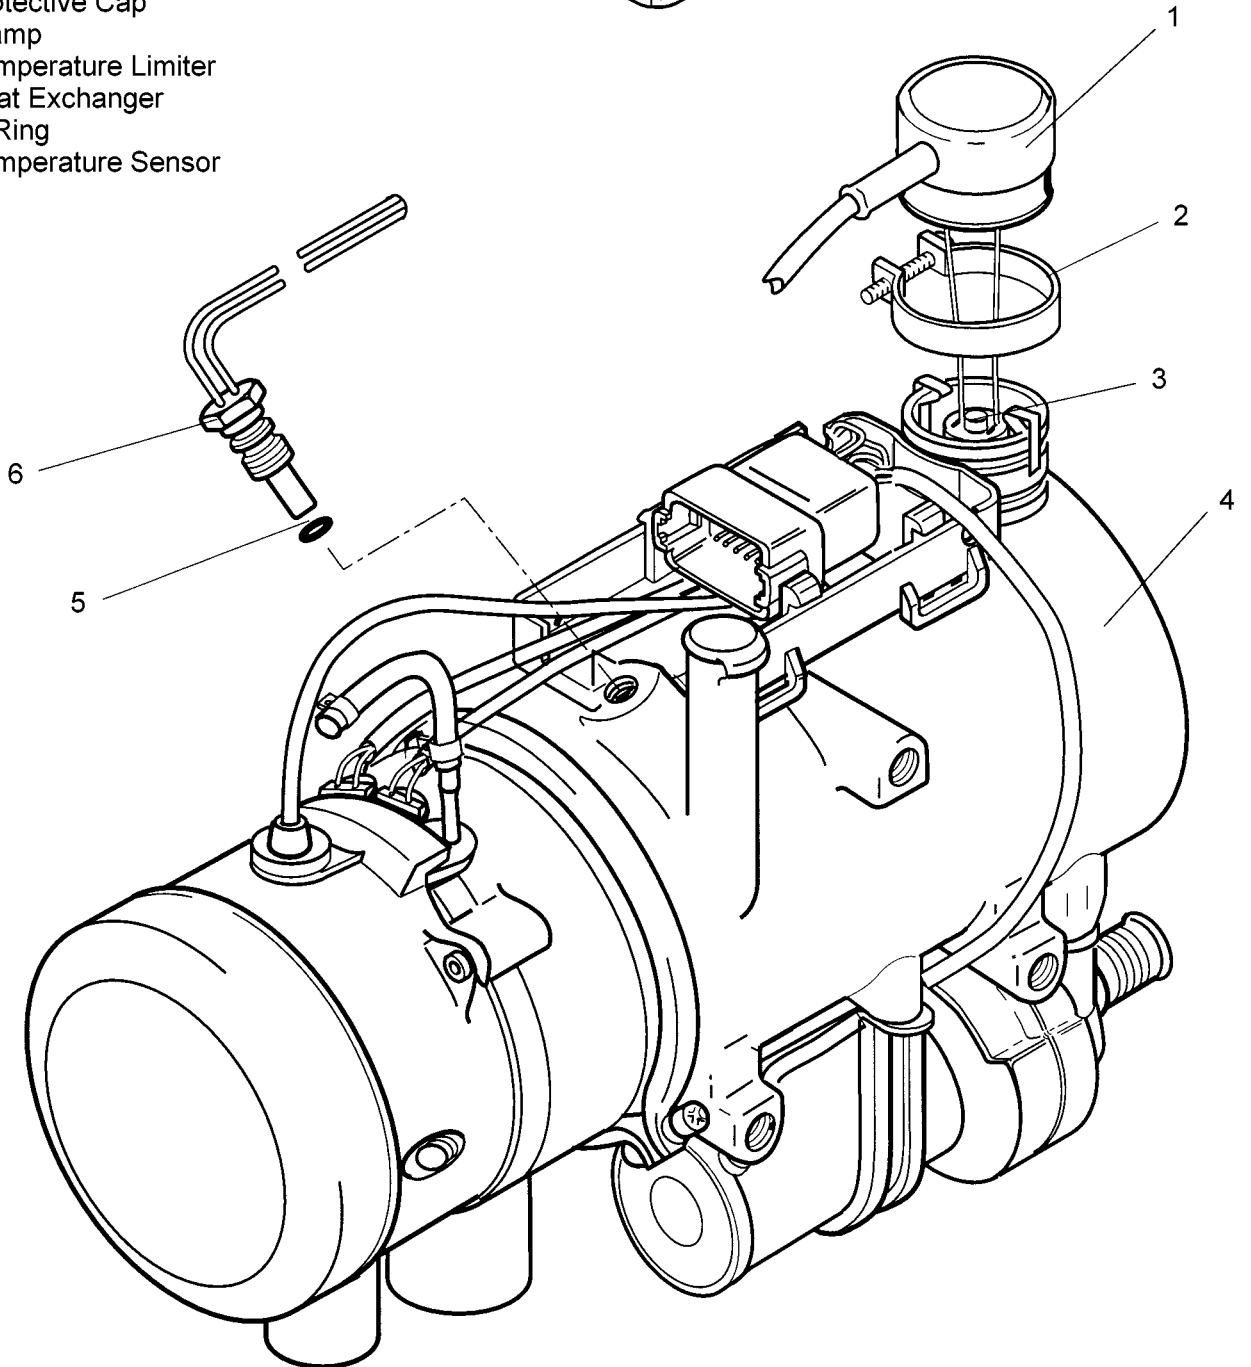

Fig. 9-3 Replacement of Temperature Limiter and Temperature Sensor
3. Remove clamp (2, Fig. 9-3) and withdraw protective cap (1).
4. Using screw driver, lever off retaining clip and remove temperature limiter (3).
1. Insert the temperature limiter (3, Fig. 9-3) into the heat exchanger (4) and press down retaining clip.
3. Unscrew temperature sensor (6, Fig. 9-3) and remove together with O-ring (5).